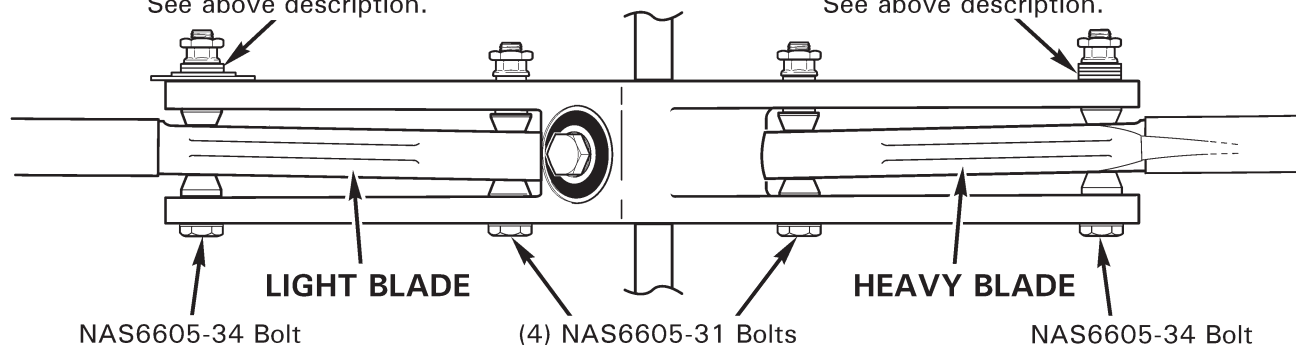

FIGURE 30-4 SPANWISE STATIC BALANCE
1. Refer to Figure 30-4. Install standard hardware for initial spanwise static balance check. Standard torque fasteners per § 23-32.